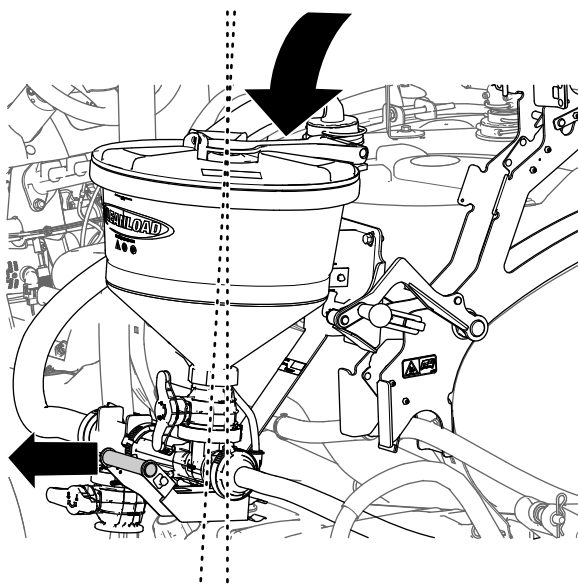

Figure 39
4. Fully lower the educator while holding the educator handle outward slightly (Figure 39).
2. Raise the educor while holding the educor handle outward slightly (Figure 39).